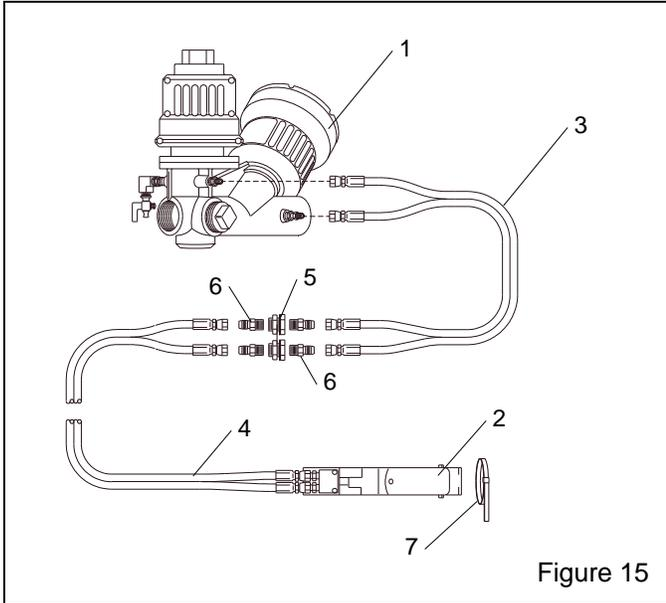

Figure 15
8.3 Remote Control System Parts, Figure 15